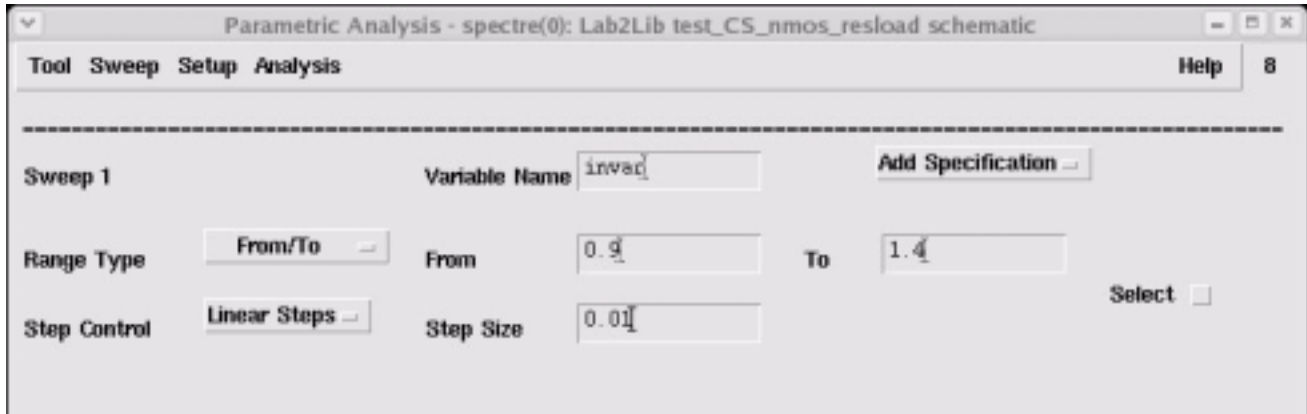

Figure 34: Parametric Analysis window.
- [3] *In the Parametric Analysis (PA) window which appears enter the Variable Name (invar), the Range (0.9 to 1.4) and the Steps (set Step Control to Linear Steps, set the Step Size to 0.01). (See Figure 34).*
- [5] *When the simulation completes, the outputs you have set-up in ADE will be plotted in the Waveform Window (WW) as a function of the variable invar, the DC bias voltage.*